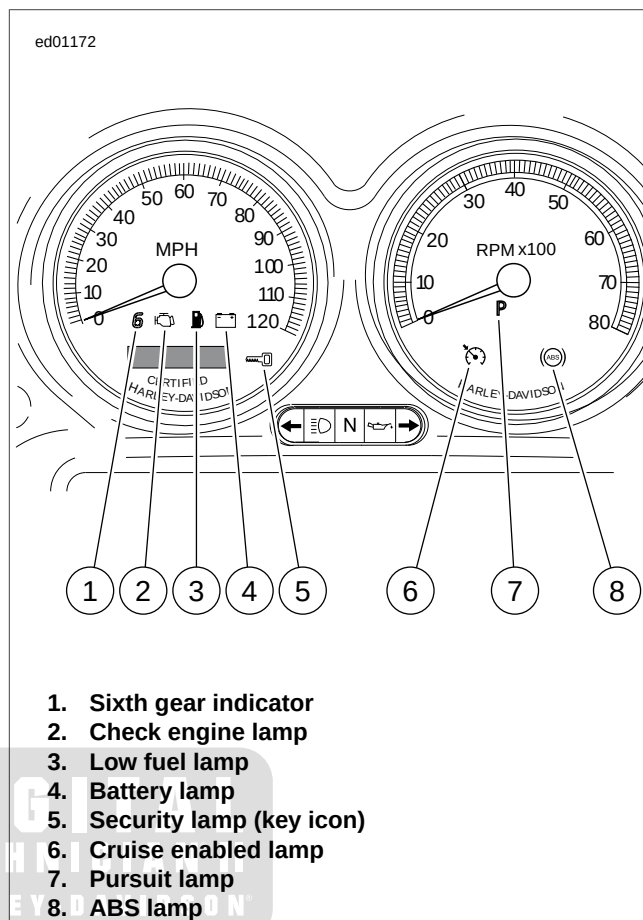

Figure 3-13. Icons
- For a quick check of speedometer function, a "WOW" test can be performed. Press and hold trip odometer reset switch then turn Ignition Switch ON (see Figure 3-14). Release trip odometer reset switch. See Figure 3-13. Background lighting should illuminate, gauge needles should sweep their full range of motion, and indicator lamps (battery, security, low fuel, check engine, ABS, cruise, pursuit, and sixth gear indicator) should illuminate. All lamps should illuminate, even those not used in normal vehicle operation.